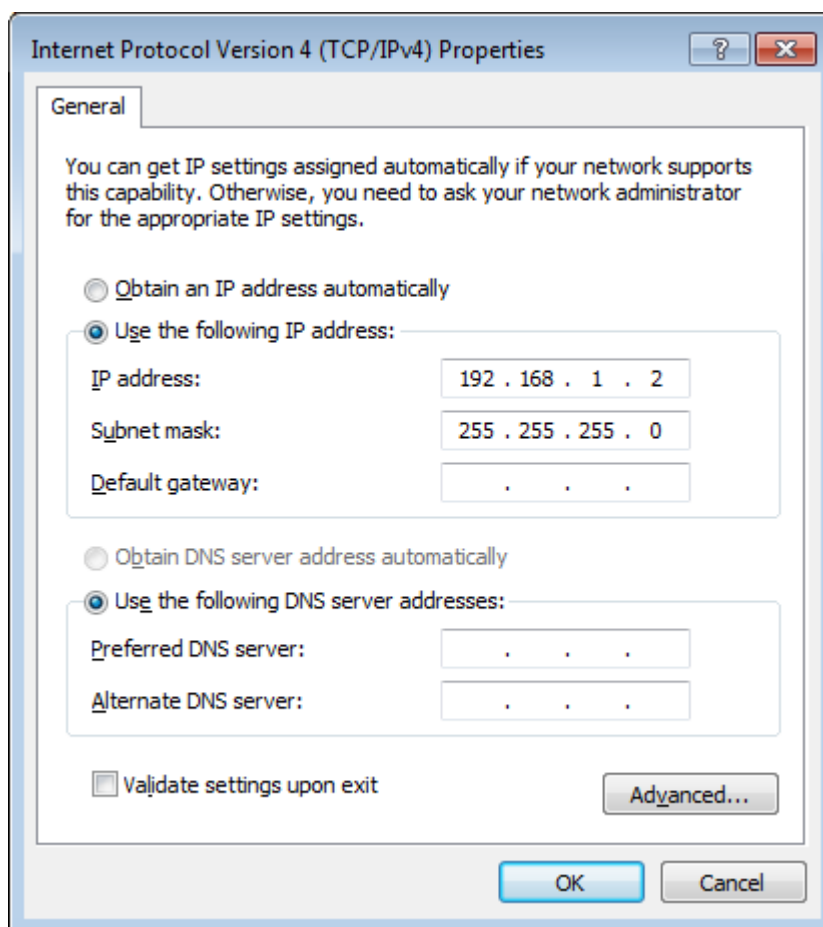

Figure 2.17: Static IP configuration of PC
1. Use one of the network cards and set it to static IP in TCP/IPv4 using the IP address **192.168.1.n**, where  $n=[2..9]$  and the mask **255.255.255.0**, see Figure 2.17 (go to **Control Panel → Internet Options → Network and Internet → Network and Sharing Center → Local Area Connection → Properties**).